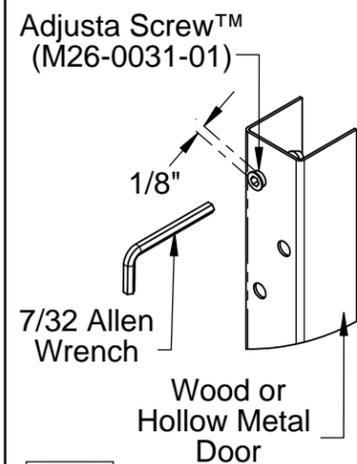

Fig. 3
- Insert Adjust-A-Screws (M26-0031-01) into every hole. Place a 7/32" Allen Wrench in the opening of the Adjust-A-Screw and turn the Adjust-A-Screw into the hole while keeping the screw properly aligned as shown in (Fig. 3). Drive all the Adjust-A-Screws in until it is approximately 1/8" from edge of door. (Adjust-A-Screw™ will self tap)
- Insert Adjust-A-Screws into every hole. Place a 7/32" Allen wrench in the opening of the Adjust-A-Screw and turn the Adjust-A-Screw into the hole while keeping the screw properly aligned as shown in (Fig 3). Drive all the Adjust-A-Screws in until it is approximately 1/8" from edge of door.